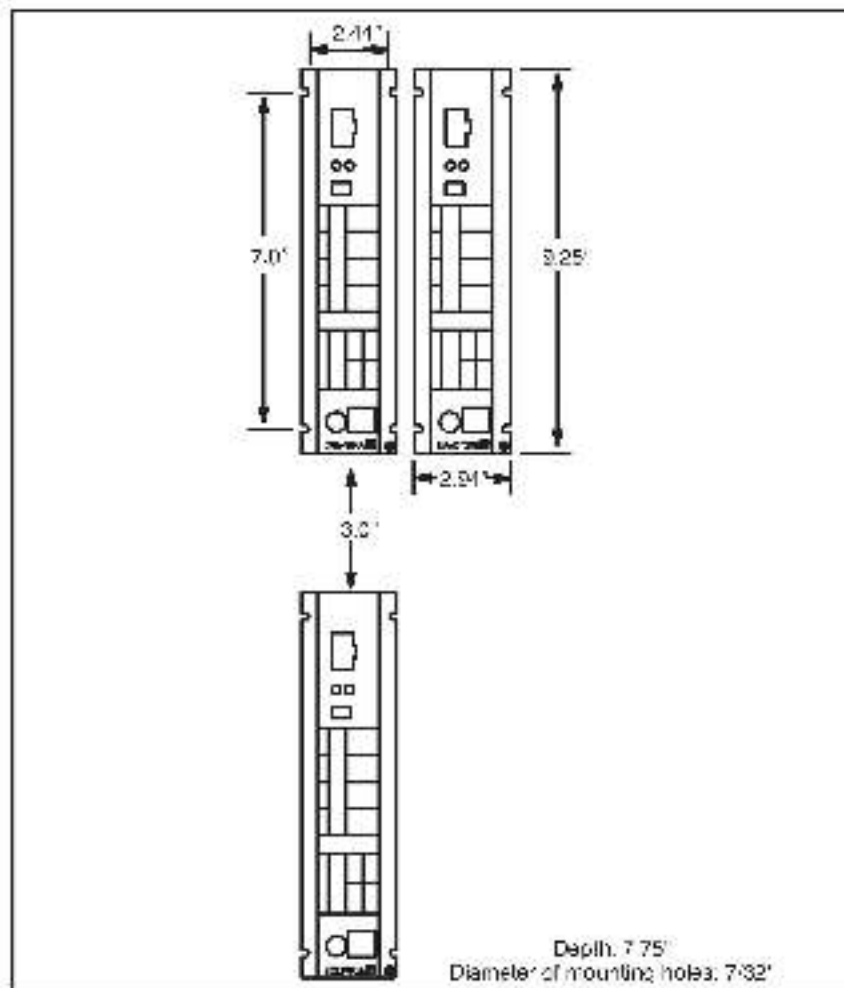

Figure 3.1 - Mounting Dimensions
- Step 1. Using the mounting dimensions shown in figure 3.1, prepare the necessary mounting provisions on the panel. The module is designed to be mounted vertically using four #10 or M6 bolts or studs. Multiple modules should be mounted side by side. The flange width of two modules side by side is sufficient to dissipate the heat produced by the modules. The modules can also be mounted one above the other, but since this hardware configuration does not allow the most efficient heat dissipation, the minimum clearance between the module chassis is 3". See figure 3.1.